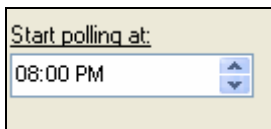

Figure 13.0.8
- Next you will need to select a time period that you want to Poll the selected controllers. First select a “**Start polling at:**” by using the pull down arrows to the right of the “**Start polling at:**” box (Figure 13.0.8).